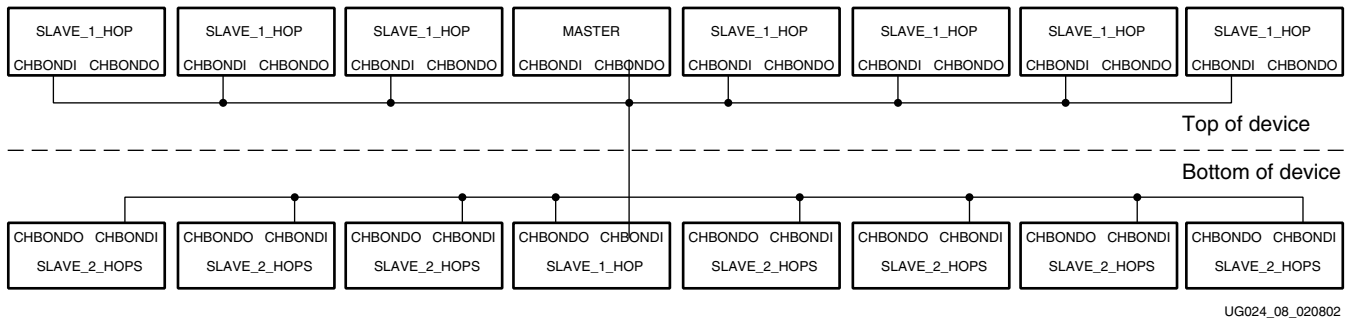

Figure 4-2: XC2VP50 Implementation
Figure 4-2 shows the channel bonding mode and linking for a 2VP50, which (optionally) contains more transceivers (16) per chip.